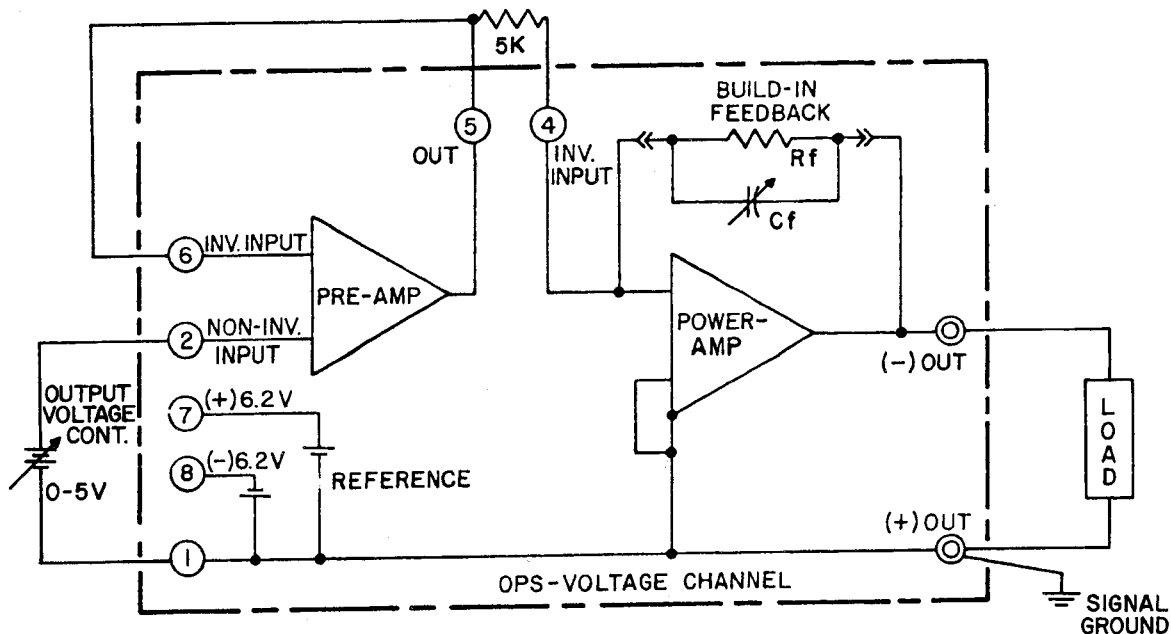

FIG. 3-3 EQUIVALENT DIAGRAM, OPS VOLTAGE CONTROL CHANNEL CONNECTED FOR VOLTAGE PROGRAMMING VIA THE PREAMPLIFIER.
- 3-10 VOLTAGE PROGRAMMING VIA THE PREAMPLIFIER. Since, in this control method, the external control voltage is connected to the noninverting input of the PREAMPLIFIER, the input impedance is very high. The external control voltage source, therefore, has to supply only the small preamplifier bias current (in the nanoampere range). The PREAMPLIFIER is connected (by means of strapping of the PROGRAMMING TERMINALS) as a "voltage repeater" and its output is connected to the inverting input of the POWER AMPLIFIER. (See FIG. 3-3.)
- 3-11 As shown in FIG. 3-3, the PREAMPLIFIER output supplies the required 1 milliampere control current via the series input resistor ( $R_i$ ) to the inverting input of the POWER AMPLIFIER, which responds as expressed by equation (1). A 0-5 volt control voltage and a 5 k ohm input resistor ( $R_i$ ) will, therefore, control the OPS output voltage over its full range.